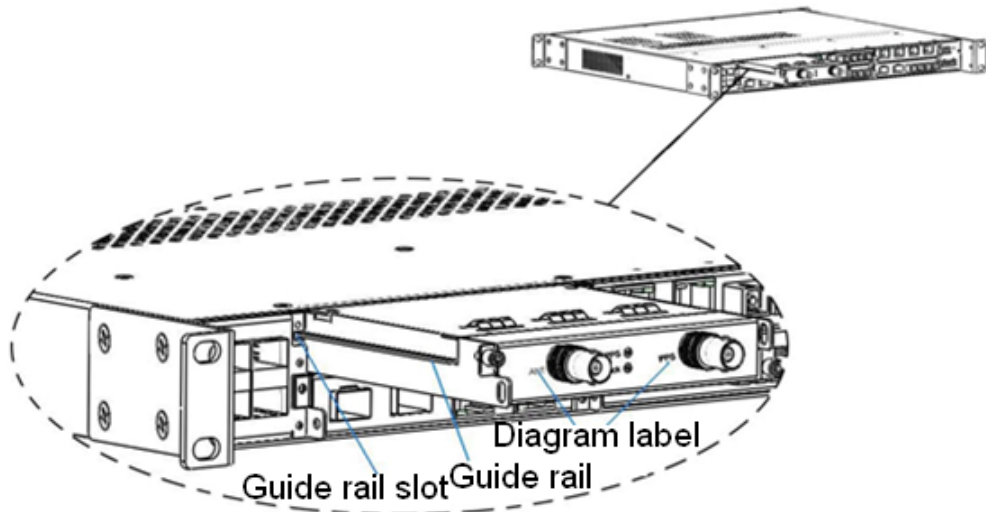

Figure 3 Module Installation 1
Step 1: Place the module with the diagram label facing up. Insert the guide rail of module into the guide rail slot, as shown in Figure 3 , and then push the module in along the guide rail slot until the module is in close contact with the switch.